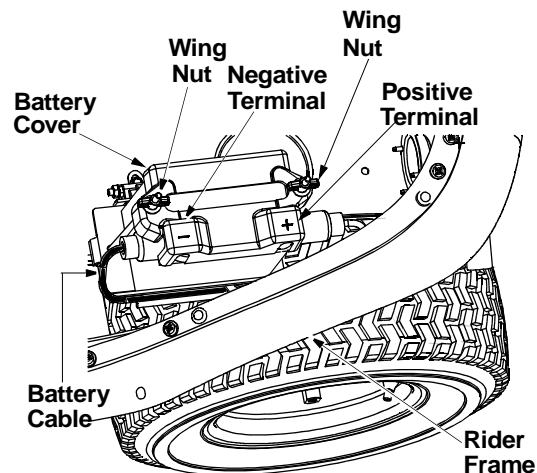

Figure 3
The battery is located under the hood assembly above the left rear wheel. Refer to Figure 3 .
- Remove both wing nuts securing the battery and cover to the battery hold-down rods. See Figure 3 .
- Remove red and black insulation caps from battery terminals. See Figure 3
- Attach the red battery cable to the positive terminal (marked +), and the black battery cable to the negative terminal (marked -) on the battery. See Figure 3 .